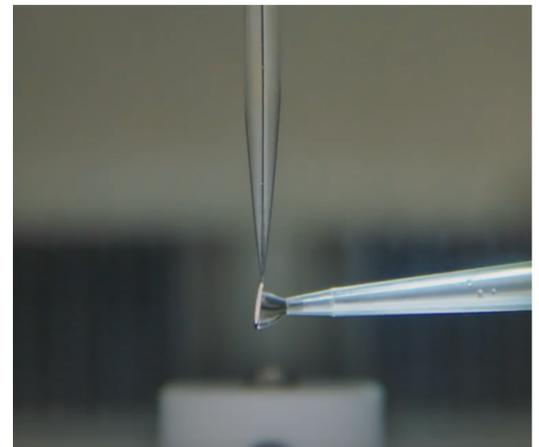

Figure 5. Pipetting sample onto CryoEM grid at sample loading position inside environmental chamber of Vitrobot
- 4.3.8. Load 3 μL of sample into pipette, insert horizontally into chamber, and add your sample to your grid (see Fig. 5).